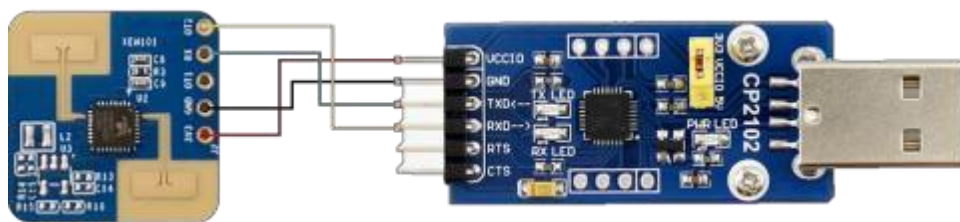

Figure 4-1 Connection between HLK-LD2420 hardware and USB serial port adapter board
Step 1、The USB to TTL serial adapter board is used to connect the host computer to the radar module, and the pin connections are shown in Table 4-1 and Figure 4-1. shown in Table 4-1 and Figure 4-1.
Step 2: Use the serial adapter board to connect the radar module and the host computer according to Figure 4-1.